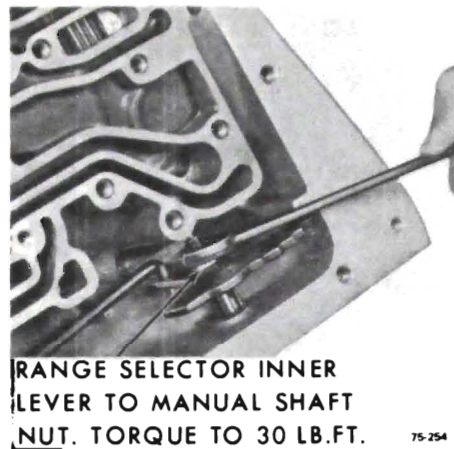

Figure 75-285
3. Install retaining jam nut on manual shaft. Torque jam nut to 30 lb.ft. See Figure 75-285.